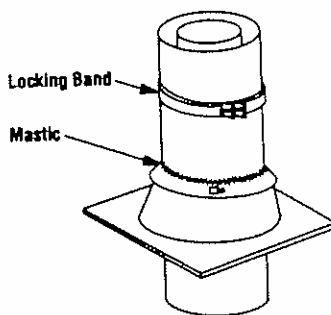

Figure 31
**Step 8.** The standard Superior roof flashing assemblies include a storm collar. Slide storm collar over outer chimney, align with top surface of flashing, insert tab in slot, pull tight and bend tab back over slot. Seal storm collar to outer chimney with roof caulking or mastic around entire circumference of pipe. Also add extra roof caulking where storm collar meets flashing and to the tab/slot area to seal completely against water penetration (Figure 31). Check all joints very carefully to ensure no water intrusion can take place.
**Step 9.** Superior locking bands, Model LB, may be required if the chimney extends too high above the roof flashing. As a general rule, if the chimney extends more than 6' (1.8 m) above the roof flashing, the use of locking bands is advisable to strengthen the chimney assembly. Align the locking band at the chimney joint. Locking bands wrap around pipe joints equally covering the joints of both pipe sections. Use nut provided and TIGHTEN snugly. Do not overtighten as this might damage chimney section (Figure 31).